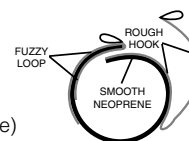

Fig. 2
3. The hook and loop material on this product is color-coded. First connect the black fuzzy material to the black hook material. Press firmly to ensure a secure connection. Then, ensuring that you have left a one-inch piece of the black fuzzy material free, fold this piece back. Now attach the colored (red or blue) hook material to the colored (red or blue) fuzzy material. Press firmly to ensure a secure connection (See Figure 2).